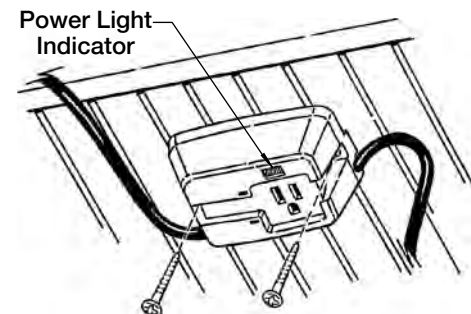

Fig. 4
7. The power light indicator (next to the receptacle on the control box) will only be lit, when the roof de-icing cable is energized. Fig. 4.